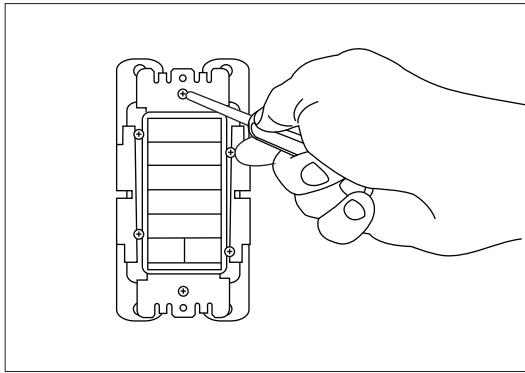

fig. 6
8. Mount the X2 to the wall box using supplied fasteners. Leave the fasteners snug, not fully tight (see figure 6).